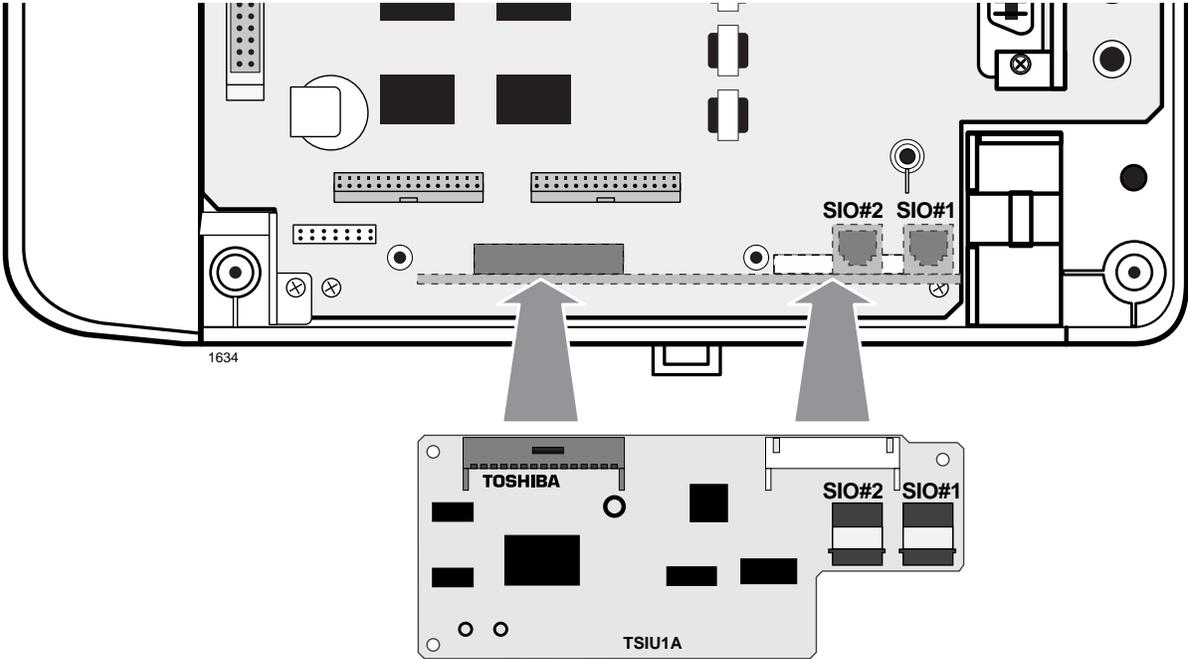

Figure 3-23 Serial Interface Board (TSIU) Installation
The TSIU PCB enables the DK40i system to connect to various hardware devices. It does not have an internal modem and does not support IMDU. (See Figure 3-23.)
- See Figure 3-23 for installation.